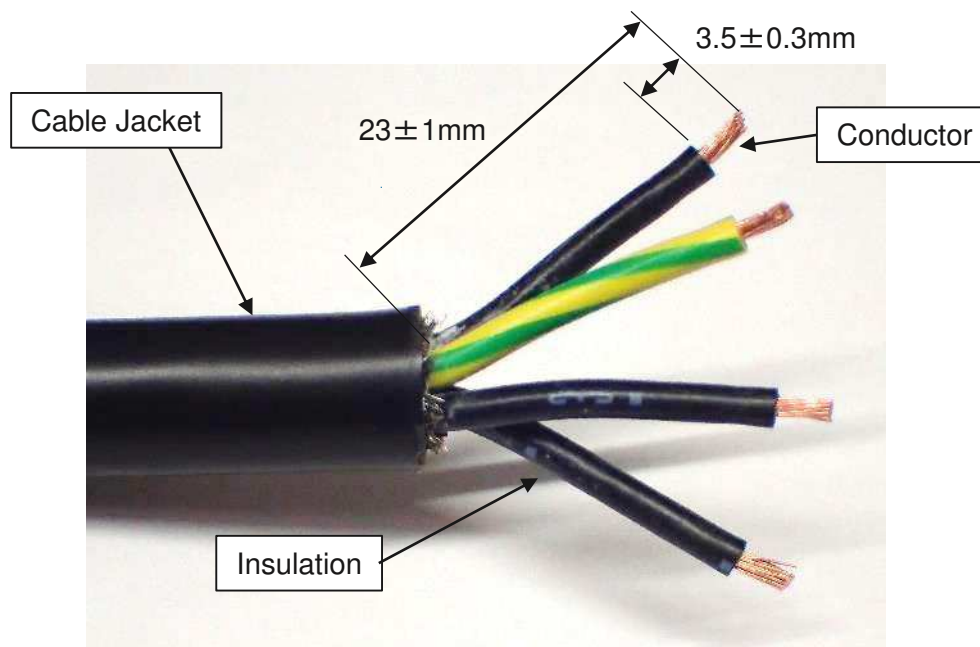
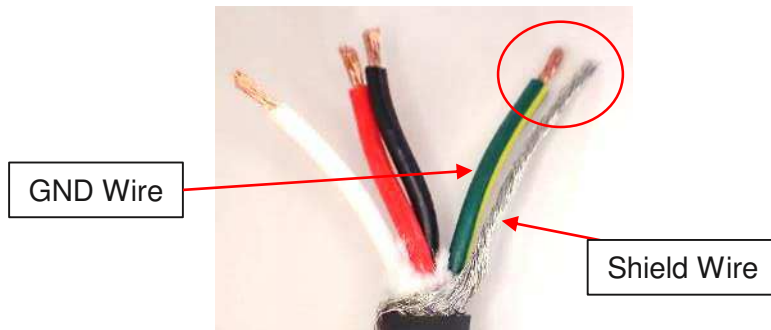

Fig.1
Fig.11
1) Remove the insulation of cable jacket and conductor as Fig. 1 shows.
A-2. Refer to Fig.1 and cut the shielded wire and GND wire the same length. (Fig.11)